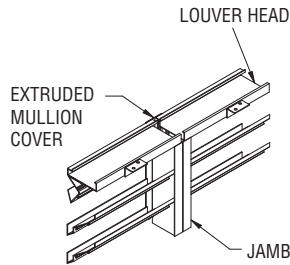

FIG. 4.3 - MULTI-SECTION WIDE VISIBLE MULLION
2. For visible mullions on stationary blade or operable louvers, install mullion cover on right hand jamb (as viewed from the exterior). See Fig. 4.3.